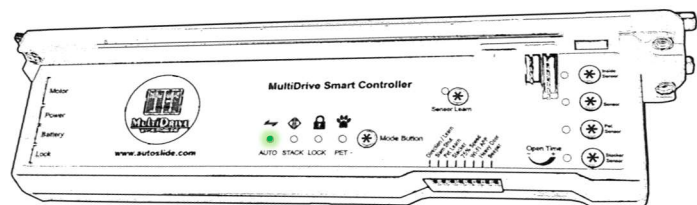

Figure 51: Controller in Green mode.
- If the unit has a solid **Green** mode light on the front (depicted in Figure 51), proceed to the next page.
- If the unit has a solid **Red, Blue, or Yellow** mode light locate the mode button on either the control panel or mode pad. Press the mode button repeatedly to toggle through modes until the **Green** mode light is selected (depicted in Figure 51).
3. Once the door is staying in the fully closed position with a **solid Green** mode light (like in Figure 51), the human opening width is programmed.